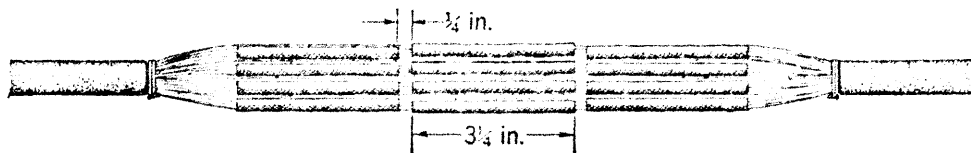

Fig. 5.
3.14 Distribute joints so that there will be three rows of sleeves in the middle part of the completed splice. Do not allow the cotton sleeves of one row to overlap the sleeves of the next row. Build up the splice by working from the back to the front, making sure that the proper amount of slack is left in the outer layers to give the splice a neat compact lay-up when it is finished. When splice is completed it should be as shown in Fig. 5.